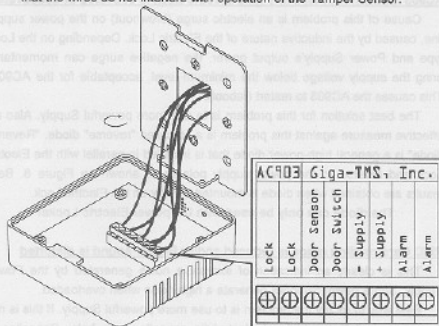

Fig. 6. Connecting wires
- Perform all the wiring in accordance with the installation configuration of your choice. Run the wires to the planned location of the Terminal and make them come out of the wall through a hole approximately 3 cm in diameter. The hole should be located in such a way that when the back-plate is installed, the wires come out through the rectangular opening in the center of the back-plate as shown on Fig. 6.
- Holding the Terminal's top cover as shown on Fig. 6 connect all the wires to their respective wire terminals and tighten the screws using screwdriver